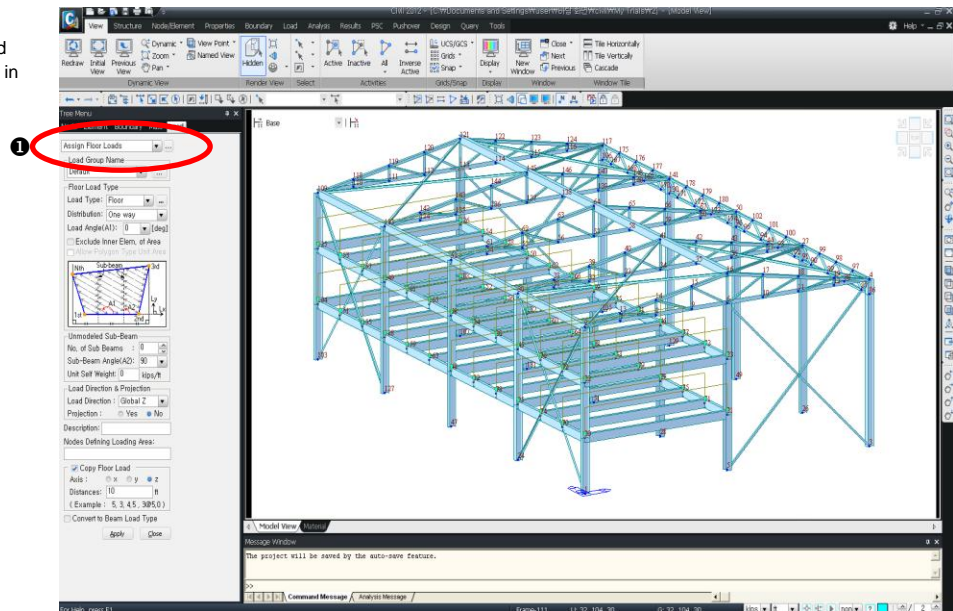

Figure 2.19 Data Entry for Floor Loads
1. Select **Assign Floor Loads** in the functions selection field (Fig.2.19-①).
3. Enter “**Floor**” in the **Name** field of **Floor Load Type & Description**.^②
5. Select “**DL**” in the **Load Case 1**, selection field of the **Floor Load & Load Case** and enter “**- 0.1**” in the **Floor Load** field.^③